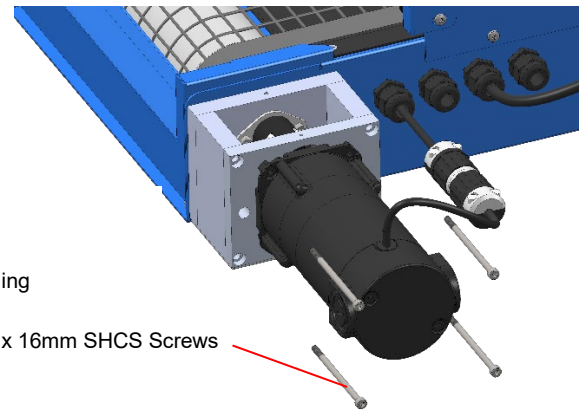

Figure 11. Install M5 x 16mm SHCS Screws
5. Install the Motor subassembly to the conveyor using the (4) M5 x 16mm SHCS screws (Figure 11).